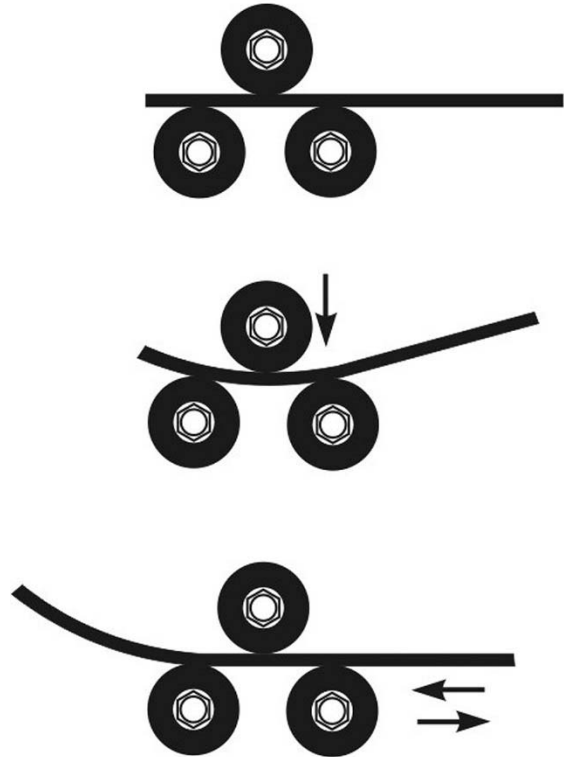

Figure 7-1
4. Place material on bottom rolls, and turn handle to move upper roll until it contacts material (Figure 7-1). Material should be parallel to ground and contact all three roll sets.